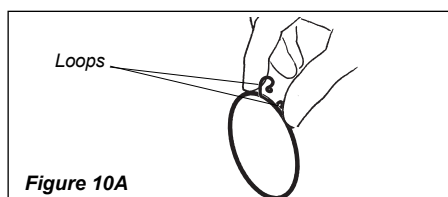

Figure 10A
4. Install throttle cable holder just forward of the 102 mm clamp, pinching loops together to fit over end of flexible tube. See Figures 10A and 10B.